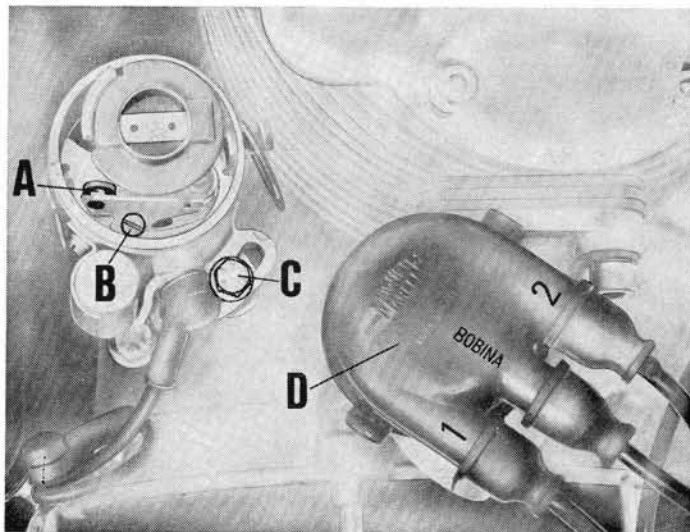

Fig. 19
Distributor (See fig. 19)
Remove generator belt cover. Check that the distributor contact points are 0.42-0.48 mm. (.016-.018") apart. Ensure the left cylinder (2) is on its compression stroke i.e. with both valves closed. Rotate the generator pulley on the crankshaft till the slot (fig. 19/1) is opposite mark A traced on the timing cover.